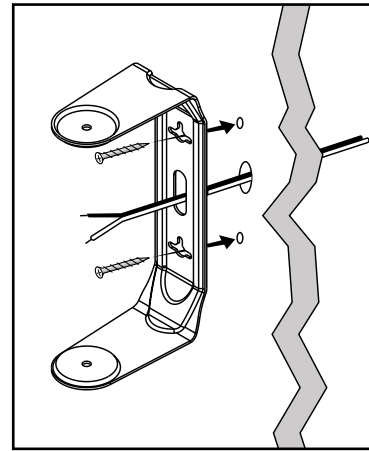

FIGURE 11
- 8) If speaker wire is being fed from a hole in the wall behind the bracket, pull this speaker wire through the hole in the bracket before mounting the bracket [figure 11].